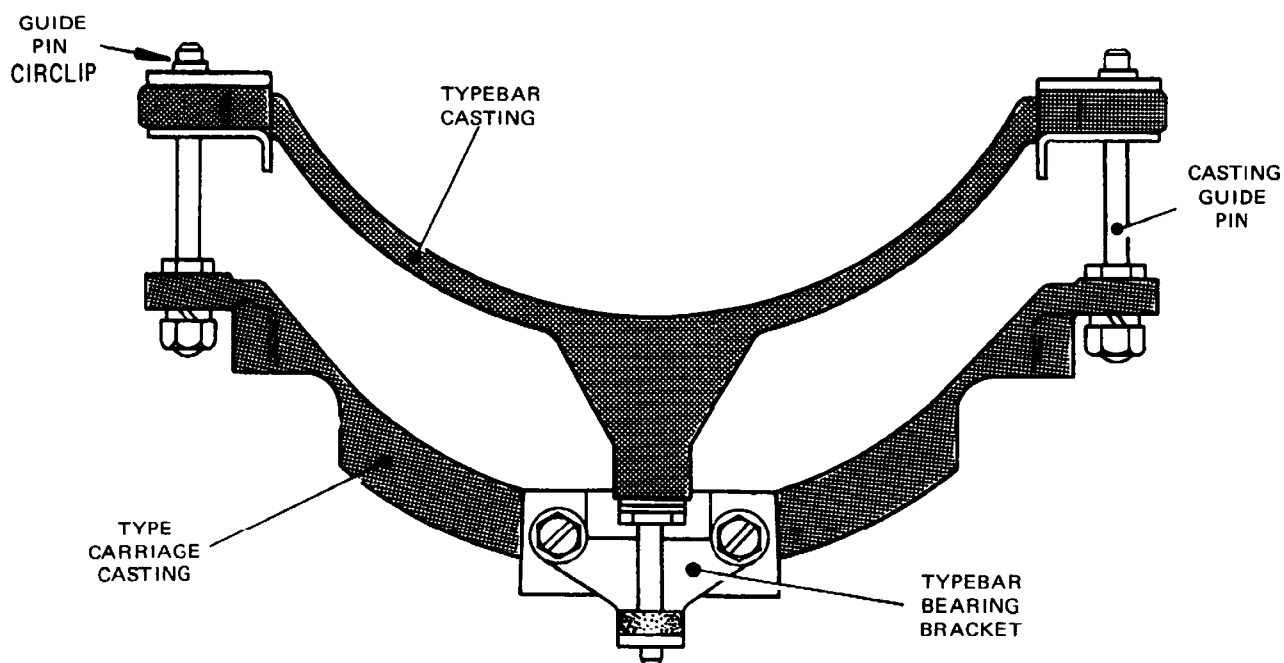

Fig. 4.8 TYPEBAR MECHANISM (REAR VIEW)
- 10.1 Lift the typebar casting, Fig. 4.8, until it is stopped by the circlip on each casting guide pin. Check by eye that the upper surface of the casting is now flush with the lower surface of each circlip.